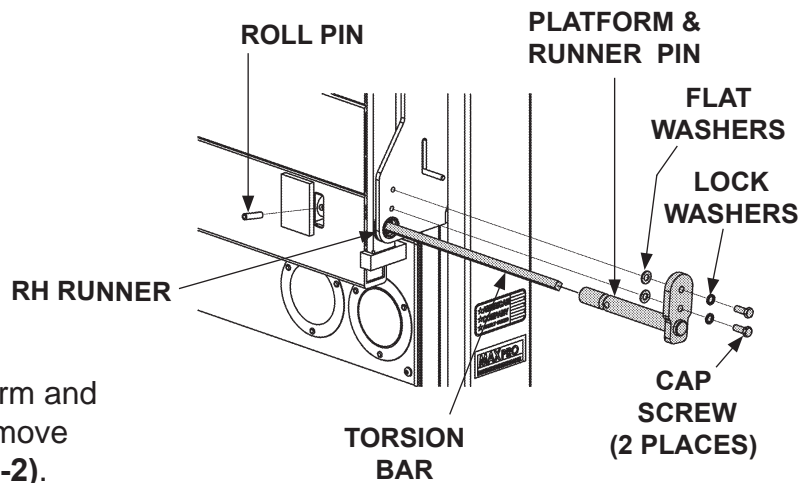

FIG. 22-2
3. On RH runner, unbolt the platform and runner pin from RH runner (**FIG. 22-2**).
4. Next, remove roll pin from platform and runner pin (**FIG. 22-2**). Then, remove platform and runner pin (**FIG. 22-2**).